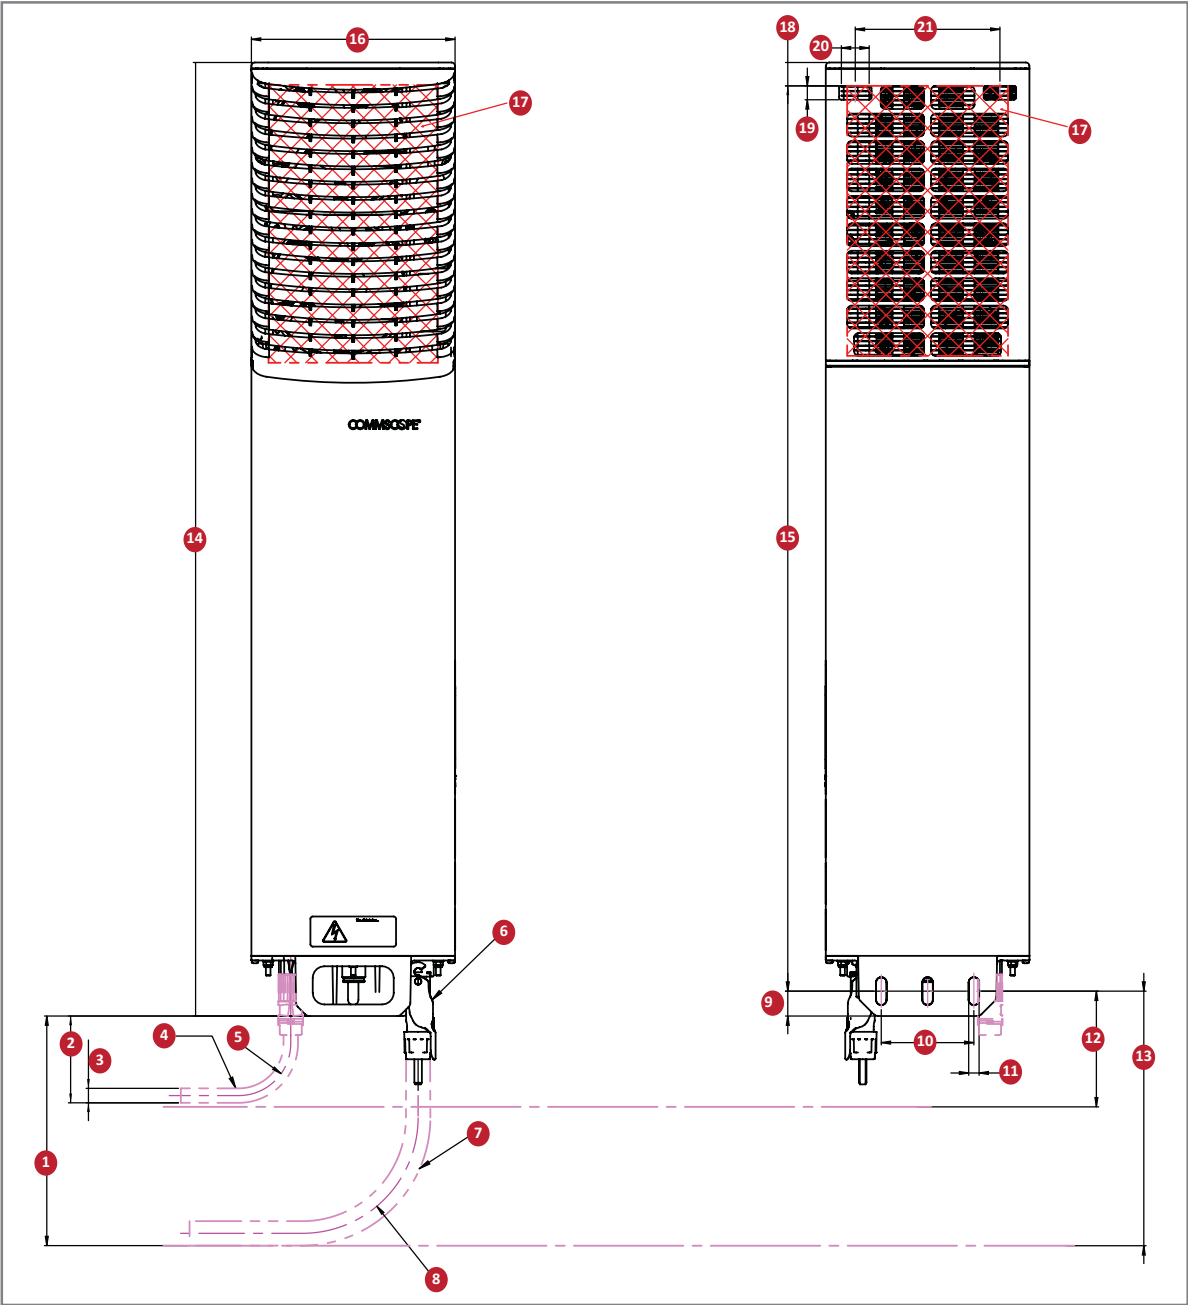

Figure 6. Required Space to Mount a CAP H
- Use the dimensions shown in Table 8 and Figure 6 on page 24 to determine the mounting site.
Table 8. Key to Figure 6 on page 24